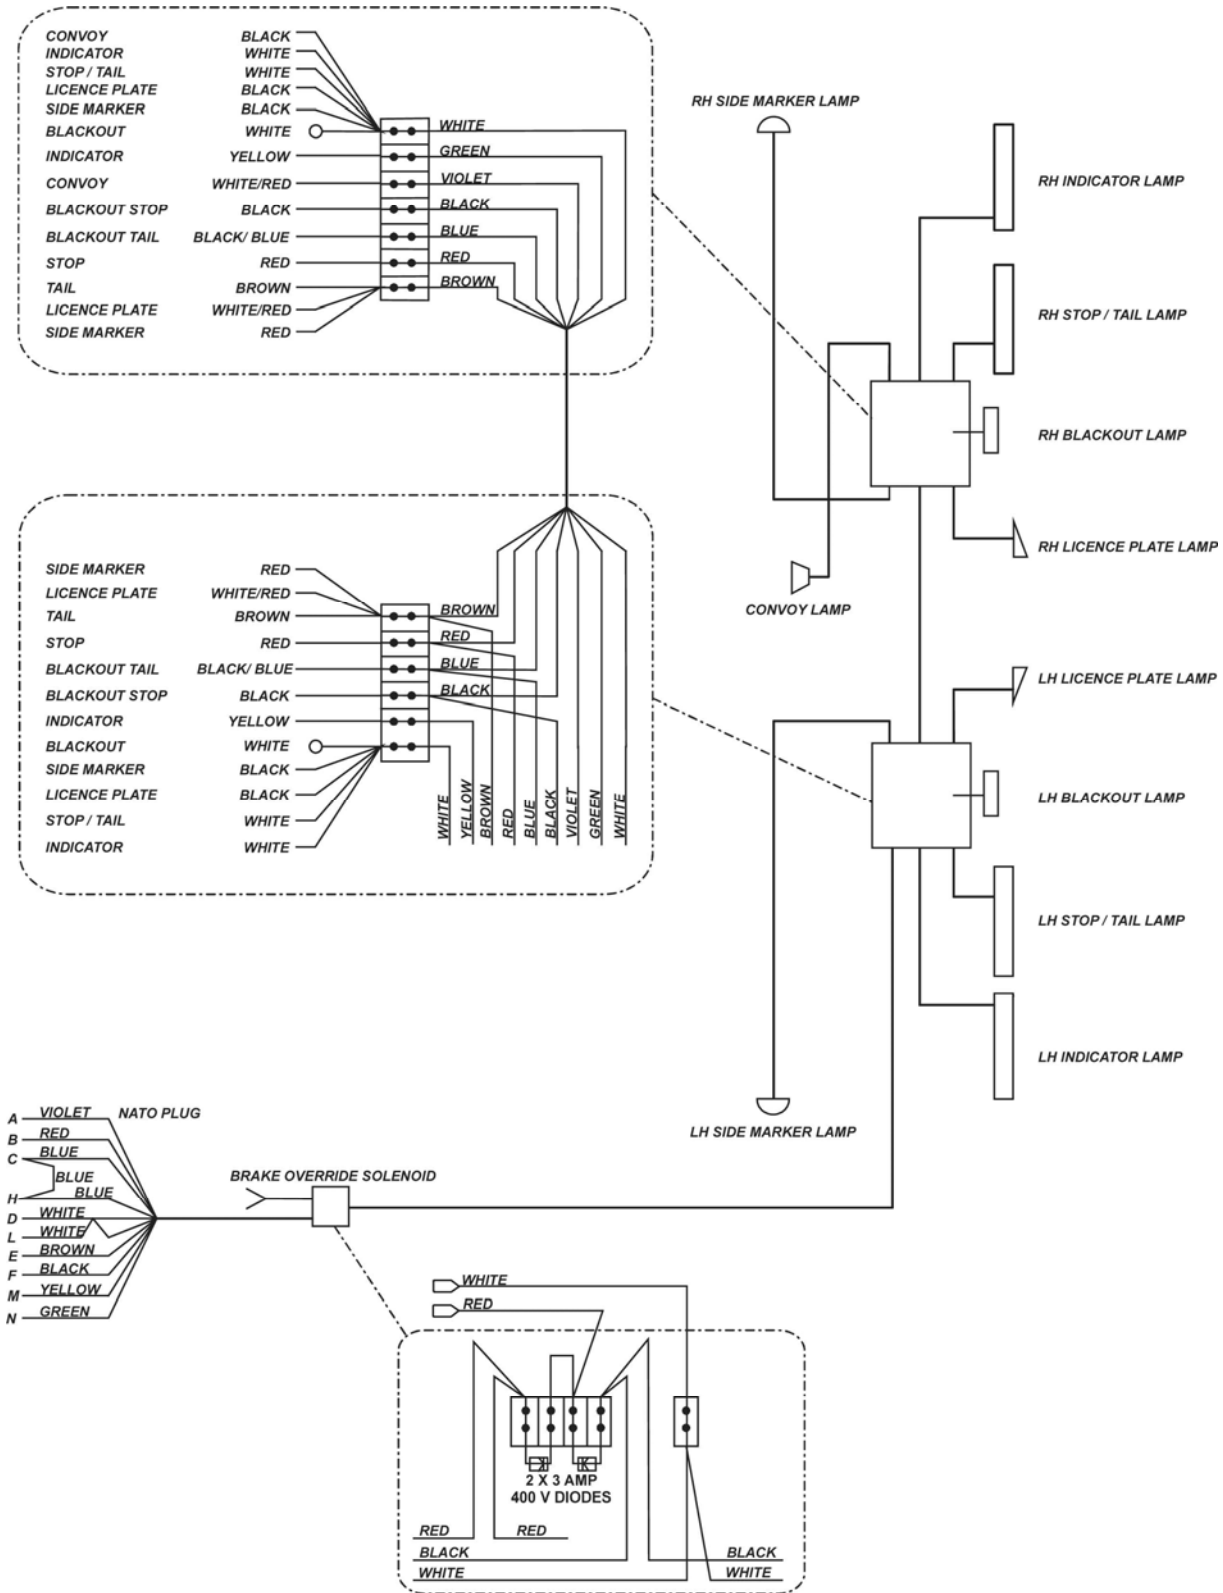

Figure 14 Electrical Wiring Diagram
- 72. An electrical wiring diagram is shown in Figure 14.
- 76. If normal brake lights illuminate when on blackout and the brakes are applied, check the polarity of the diodes in the front junction box as shown in Figure 14.